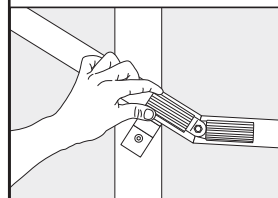

Fig. 5
2. Assemble and position the adjustable joiner on the outside of the handrail and tighten the bolt at the appropriate angle (Fig. 5).